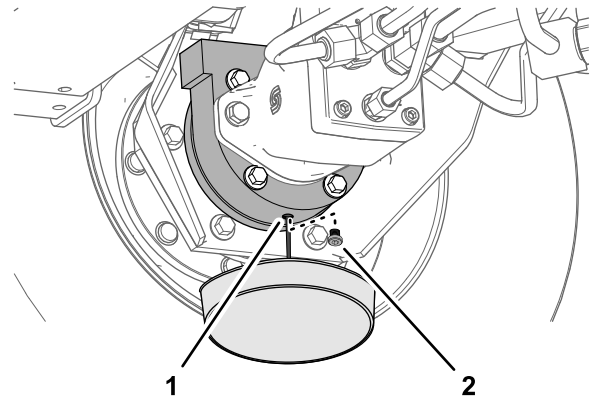

Figure 83
6. Place a drain pan under the brake housing, remove the drain plug, and allow the oil to fully drain (Figure 83).